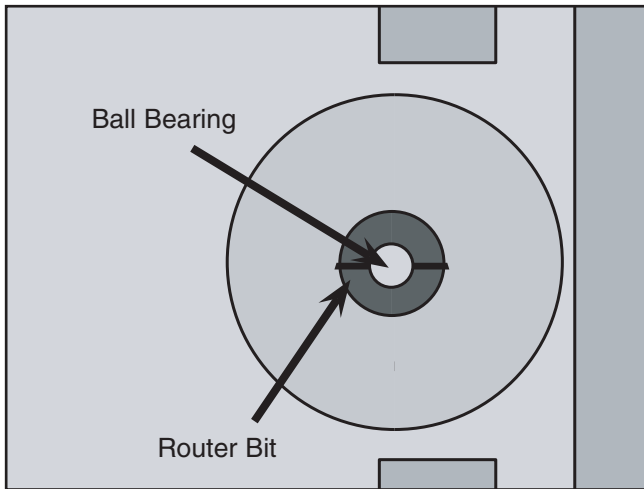

Figure 20. Proper setup for profile cutting.
4. Adjust the fence back and away from the bit only enough to allow the ball bearing to control the depth of cut as shown in **Figures 20 & 21**.